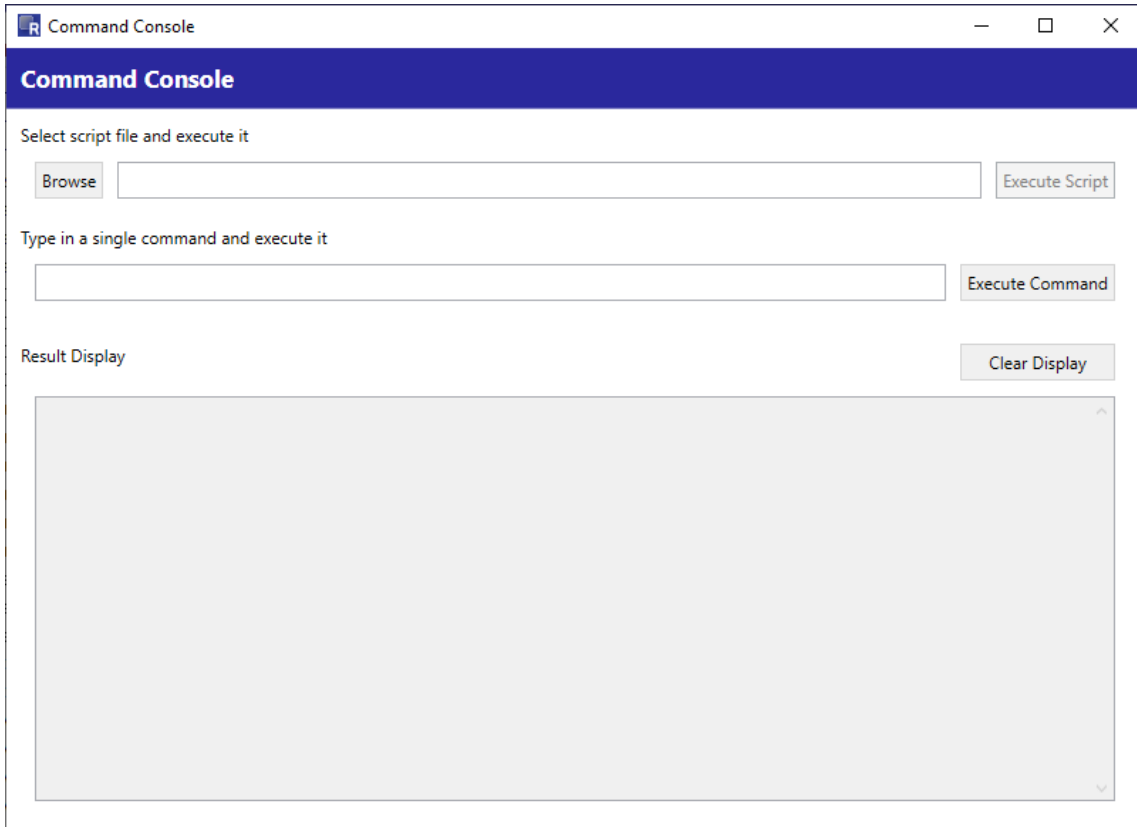

Figure 12. Tools Menu – Command Console
- Command Console: launches the Command Console (Figure 12), for detailed description of the available options see section 3.9.